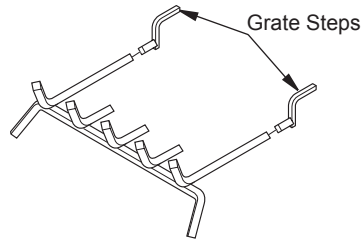

Figure 7 - Attaching Grate Steps
1. Slide grate steps onto the ends of the grate as shown in Figure 7.